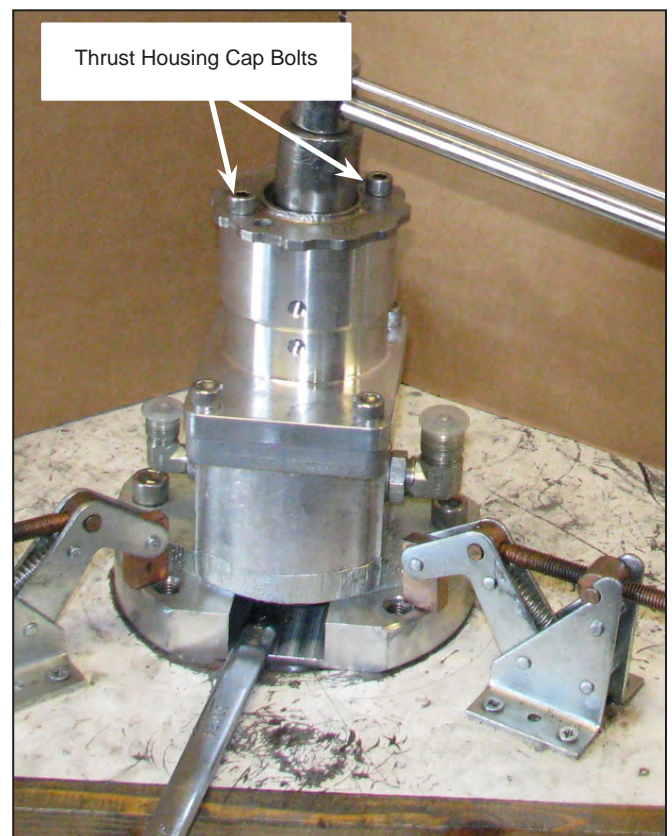

Figure 11: Spanner socket secured with thrust housing cap bolts.
**Then hold the thru-shaft firmly with 3/4" open end wrench so it doesn't move at all** and set the bearing preload by carefully loosening the spanner socket and seal nut one bolt hole. Then thread 2 - 3/8" thrust housing cap bolts through the holes in the spanner socket and into the threaded holes in the thrust housing to hold the spanner socket in that position. Figure 11.